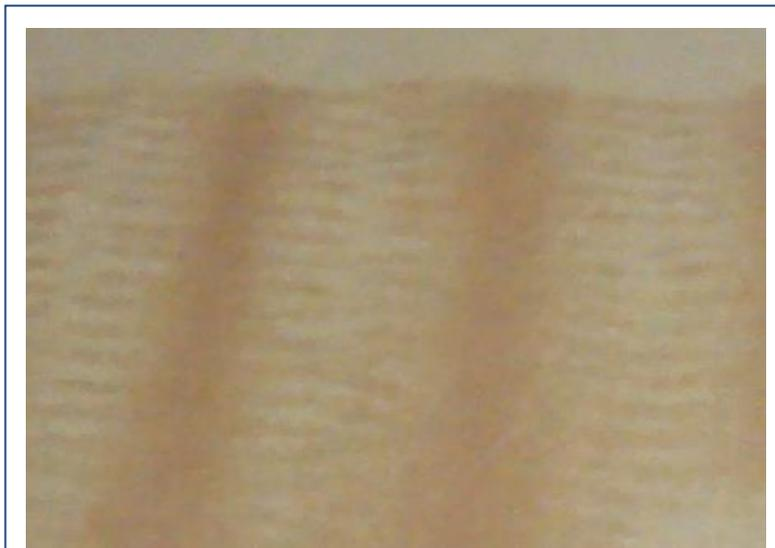

Figure 6.1 – If the pre-treatment solution is low and allowing the Viper to suck in air, you will get a spray pattern like above.
5. If you see a spray pattern as in Fig. 6.1 the most likely cause is that the pre-treatment solution is running low and the Viper’s fluid intake filter is partially submerged and partially exposed to the air. If this is the case, the air will be sucked into the Viper resulting in a “tire track” type pattern with a more solid center. To remedy this fill your pre-treatment container with more fluid or switch to a new container.